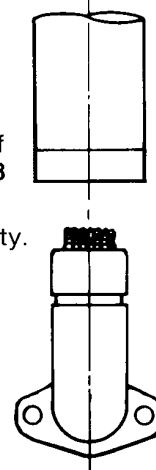

FIGURE 28
5. The flame touches the flue baffle. Correct position of baffle. See **Figs. 28 and 29.**